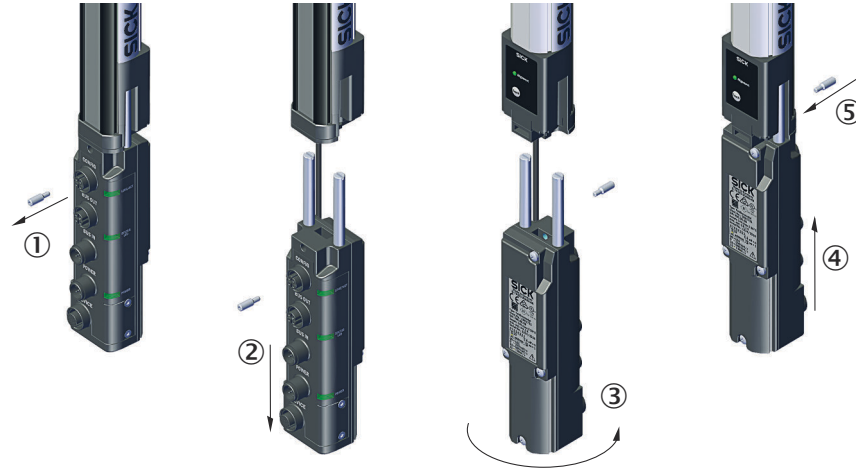

Figure 38: Turn the fieldbus module by 180°
- ▶ Remove the fieldbus module as described (see figure 38, page 45).